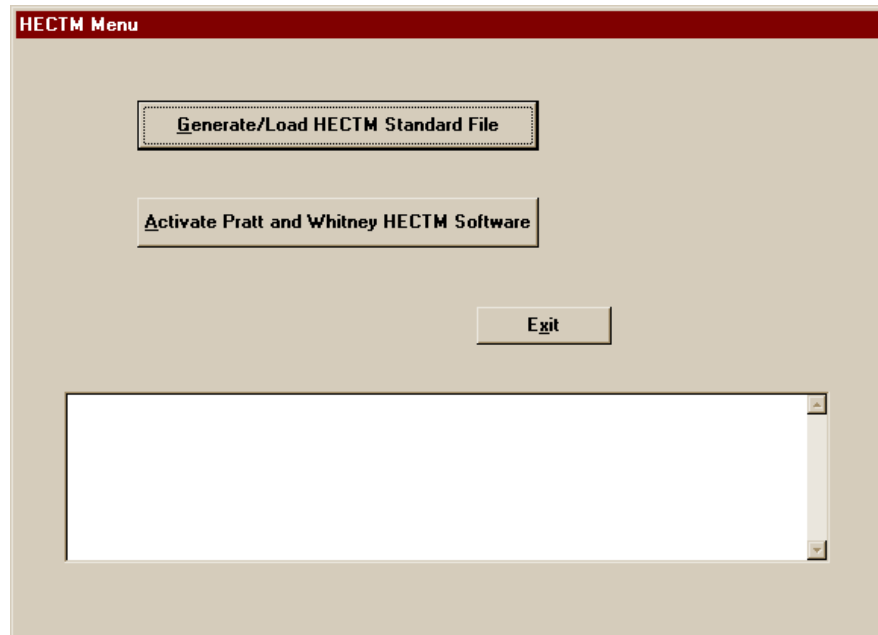

Figure 55. Generate/load HECTM Standard File Screen
3. Press **OK**. The HECTM™ Menu screen will appear (refer to Figure 55).